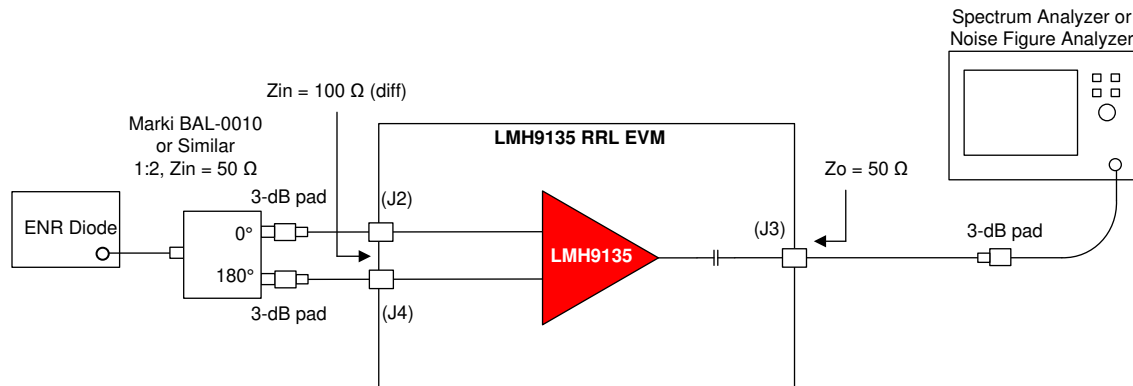

Figure 3-3. Noise Figure Test Setup
1. The traditional Y-factor method can be used for the NF measurement using a noise diode and a spectrum analyzer (or a noise figure analyzer), as Figure 3-3 shows.